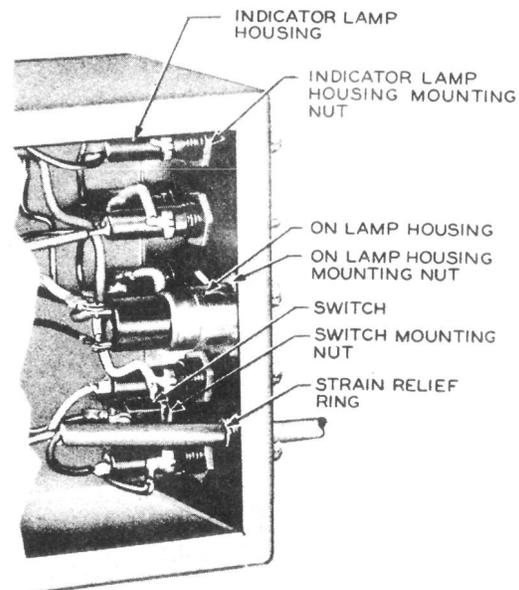

Fig. 10 - KS-14778 Photo Processor — Partial View With Access Panel Removed Showing Lamp Housings, Switches, and Associated Parts
3.13 ON Lamp Housing and Cap: Remove the ON lamp and cap as covered in 3.17. Remove the access panel from the bottom of the control panel as covered in 3.04. Loosen the lamp housing mounting nut (Fig. 10) using the R-2718 plier wrench, and rotate the housing to gain access to the terminal screws. Disconnect the leads with the 4-inch regular screwdriver. Remove the mounting nut from the housing and remove the